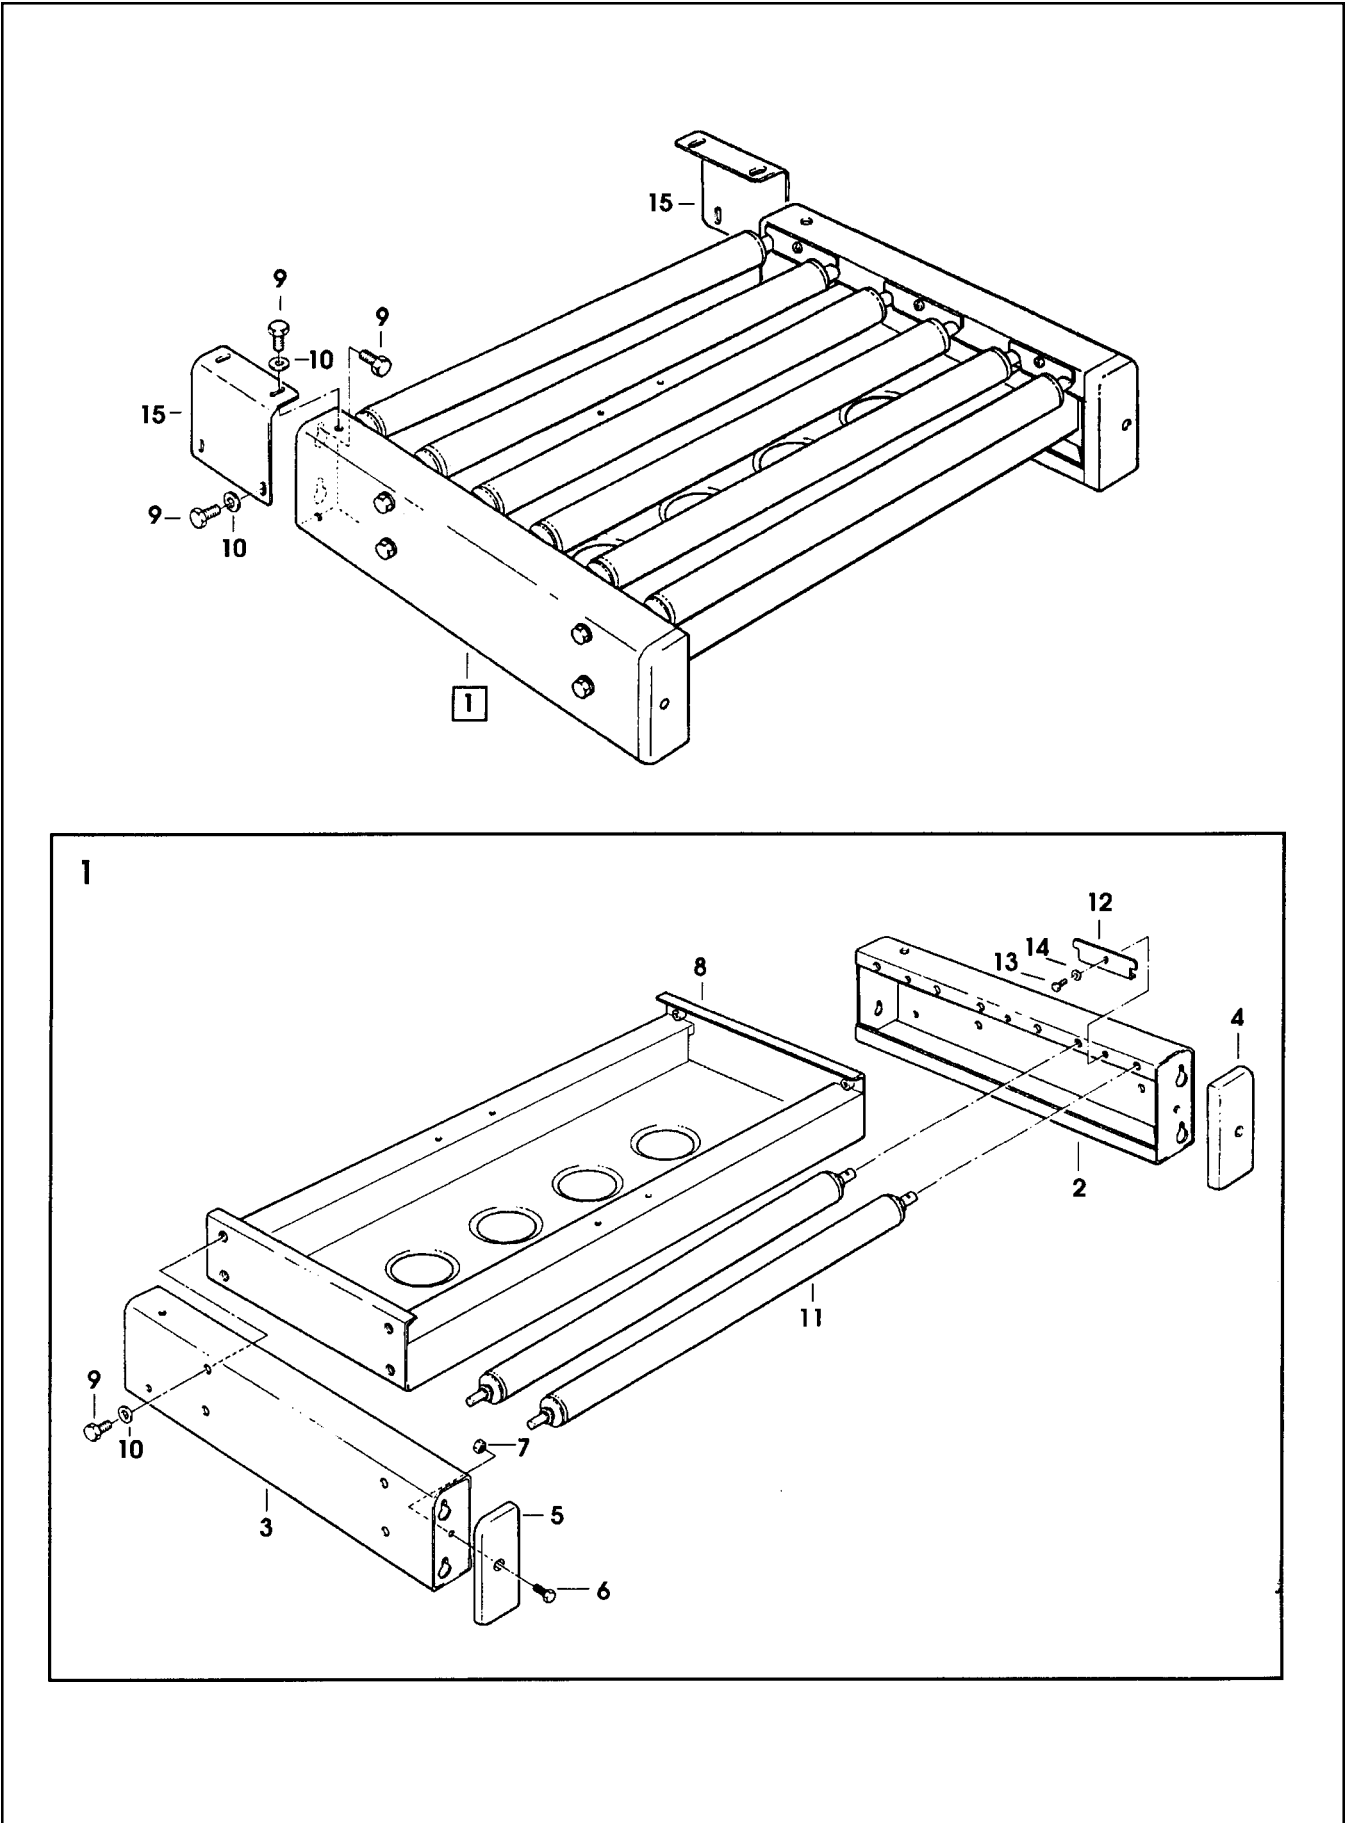

Figure 3 – Parts Illustration (Parts List on Back Page)
1. Refer to parts illustration Figure 3 to find part needed and reference number.